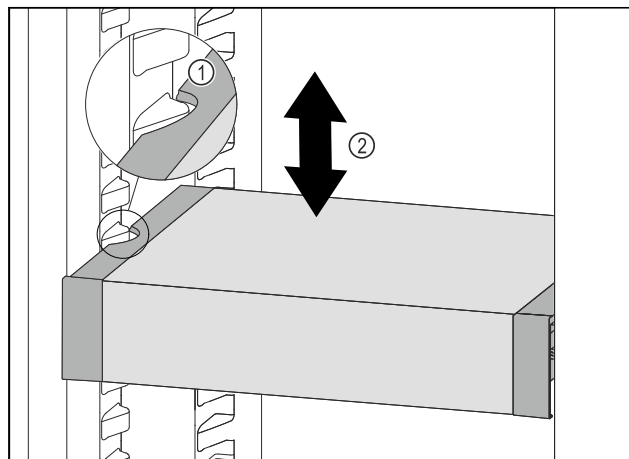

Fig. 217
- Pull VarioSafe forwards until the recesses in the side of the VarioSafe are at the level of the support rib in the refrigerator compartment. Fig. 217 (1)
- Move VarioSafe up or down in the refrigerator compartment until the desired height is reached. Fig. 217 (2)